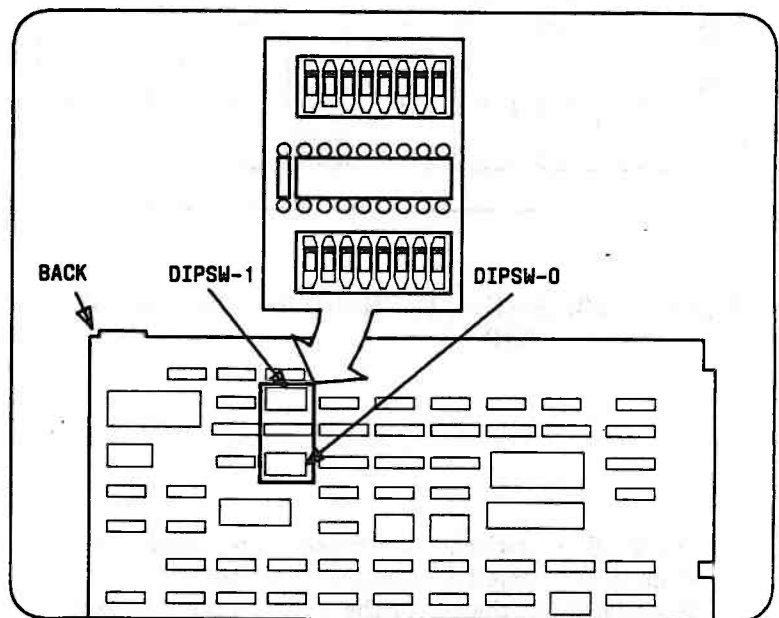

Figure 3-21. Locating DIPSW-0 on the Motherboard
11. Locate DIPSW-0 on the Motherboard (Figure 3-21).